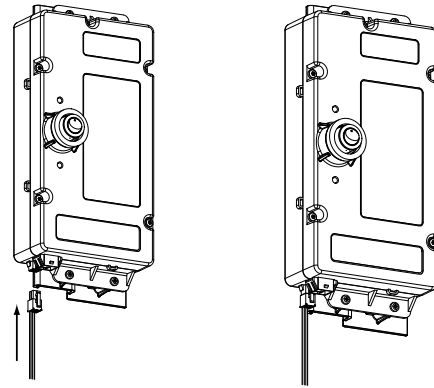
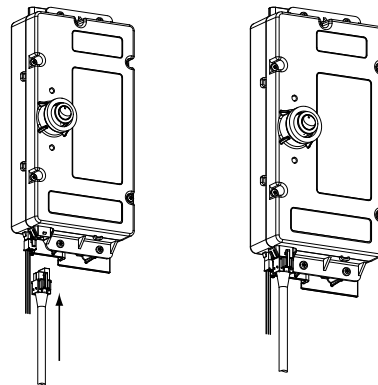

Fig. 7 - Flow Sensor Cable Installed
Fig. 8 - Power Cord Installed
- c. Connect the power cord and the flow sensor cord to the power supply connector and the flow sensor connector (see Fig. 7 and Fig. 8).
Step 4 — Unplug the power cord and flow sensor cable (if connected) from the enhancement module 9 (See Fig. 7 and 8)